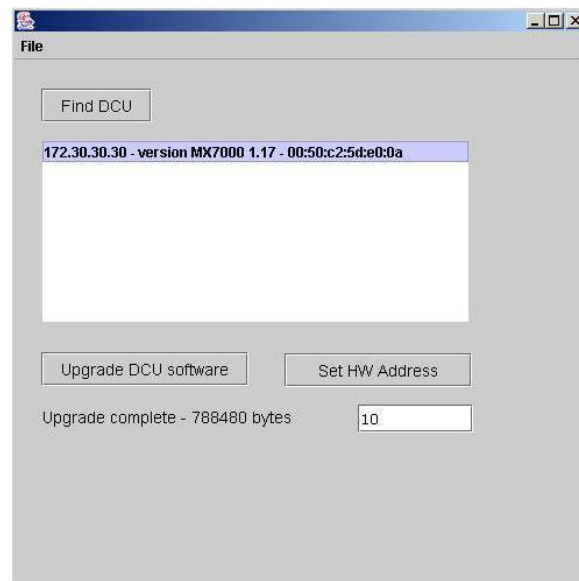

Figure 29 DCUFinder upgrade complete screen.
4. When the message "Upgrade complete" is displayed (see Figure 29), restart the MX by pressing and releasing the reset switch.